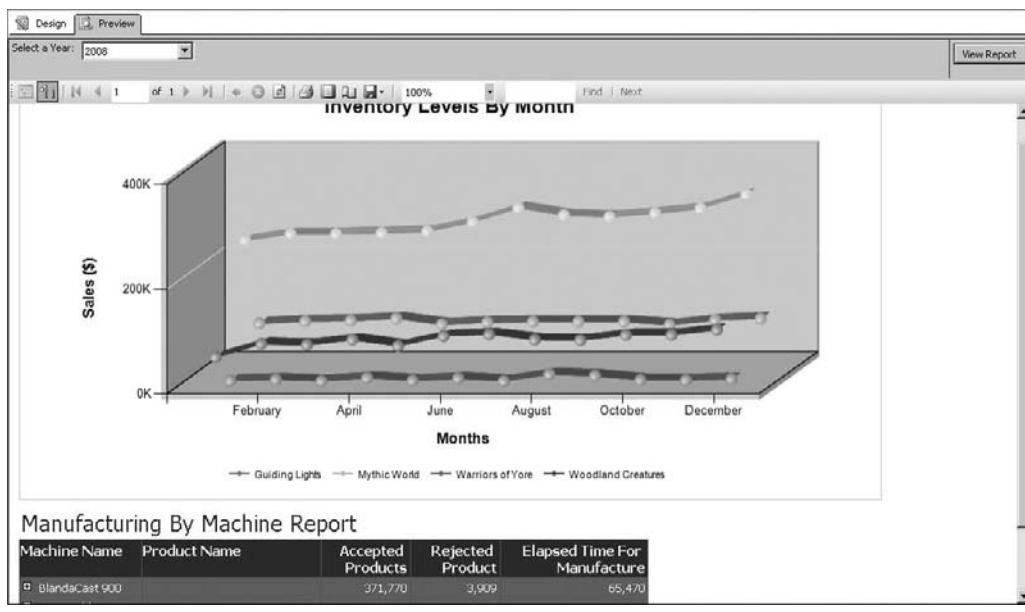

Figure 16-60 The Inventory Levels By Month Report preview with a subreport
93. Click the Preview tab. The report appears as shown in Figure 16-60.